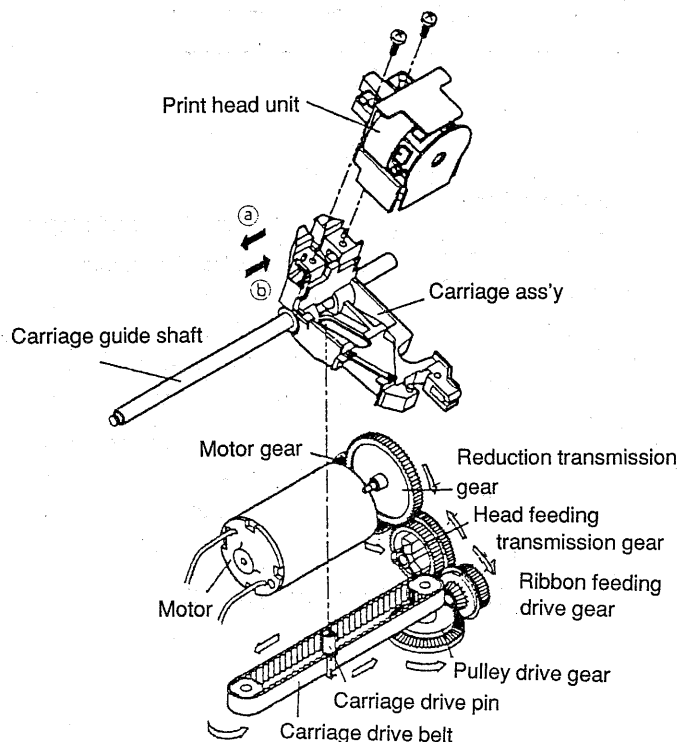

Figure 1.12 Print mechanism
This mechanism is composed of a print head unit consisting of seven wires arrayed vertically (on the Model-820) carriage ass'y, shaft, carriage guide, carriage drive belt ass'y, belt drive pulley subset, belt tension adjustment plate ass'y and a platen. The printing method is the bi-directional printing method in which the print head unit moves either in direction → ① or direction → ② to carry out printing (see Figure 1.12).
When the motor operates and gear rotates, the belt drive pulley rotates via the gear ass'y, (reduction transmission gear, head feeding transmission gear, ribbon feeding drive gear, pulley drive gear). The carriage drive belt ass'y moves in the direction. (shown by the arrow →) The carriage drive pin secured to the carriage drive belt ass'y interlocks with the shaft on the carriage ass'y and the long hole at a right angle to the carriage guide. The carriage drive pin alternates between movement on a straight line and movement in an arc while the carriage ass'y and the print head unit repeat only back-and-forth motion on a straight line. In other words, the print head unit moves in the direction shown by arrows → ① and ② (see Figure 1.12).